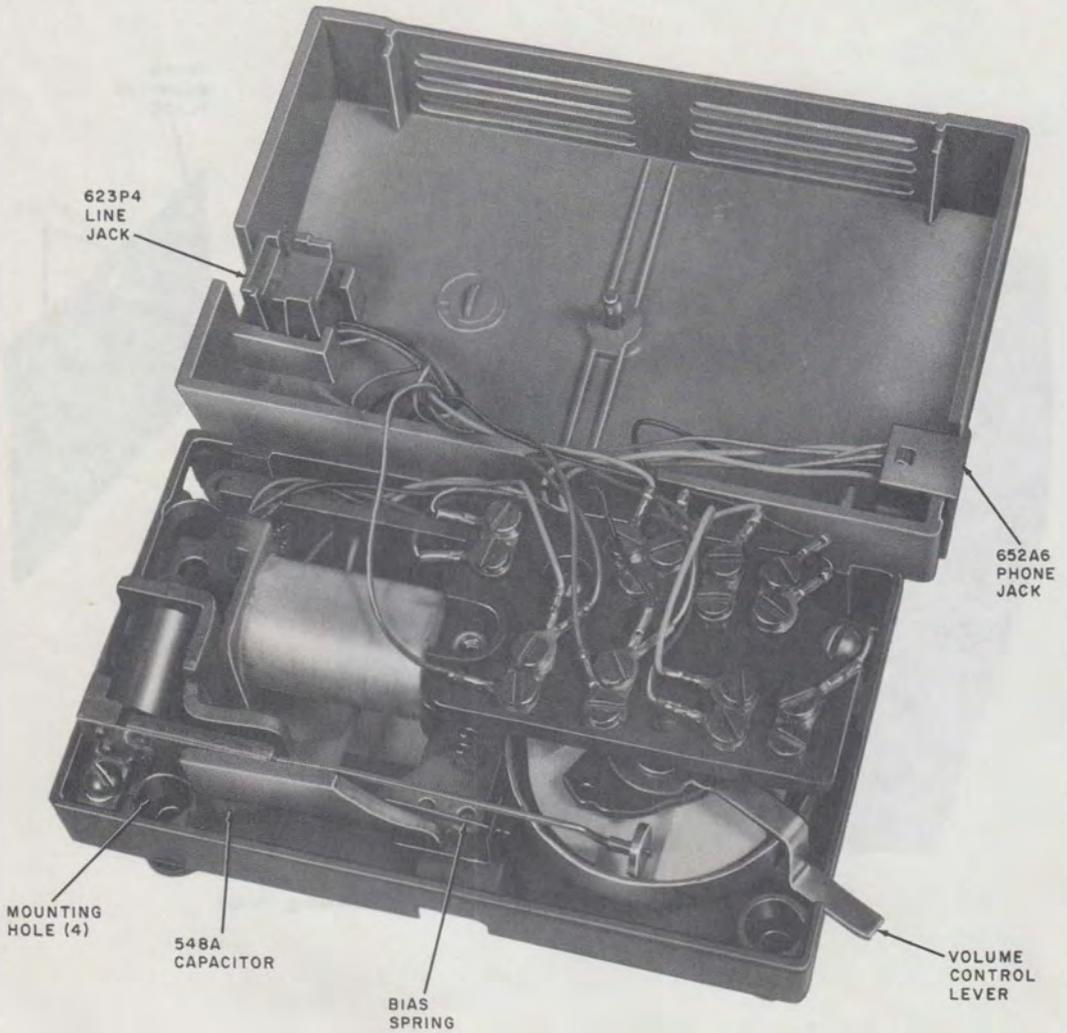

Fig. 7—E1CM Ringer, Interval View
2.02 The E1CM (modular) ringer (Fig. 7) is identical to the E1C except it has a 652A6 (*Phone*) jack and a 623P4 (*Line*) jack connected to an eight terminal connecting block.